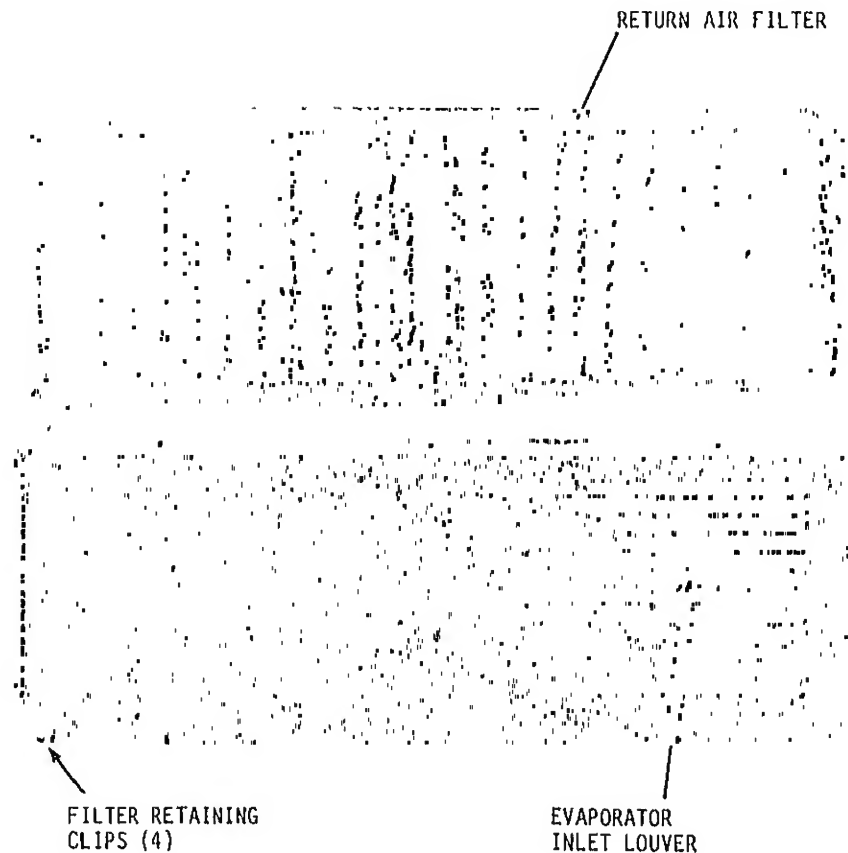

Figure 4-2. Return air filter
(2) Refer to figure 4-2 and slide the return air filter from the four filter retaining clips.
(1) Refer to figure 4-2 and slide the air filter into four filter retaining clips.